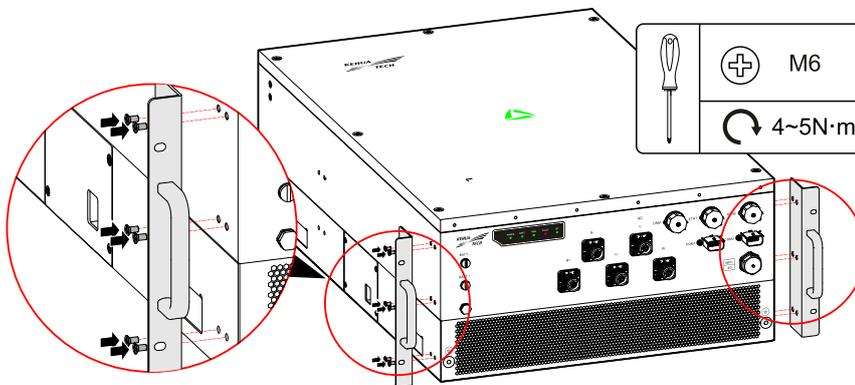

Figure3-6 Install the fasten parts
Step 1 Install the two fasten parts by six flat screws M6\*12 onto the PCS, as shown in Figure3-6.